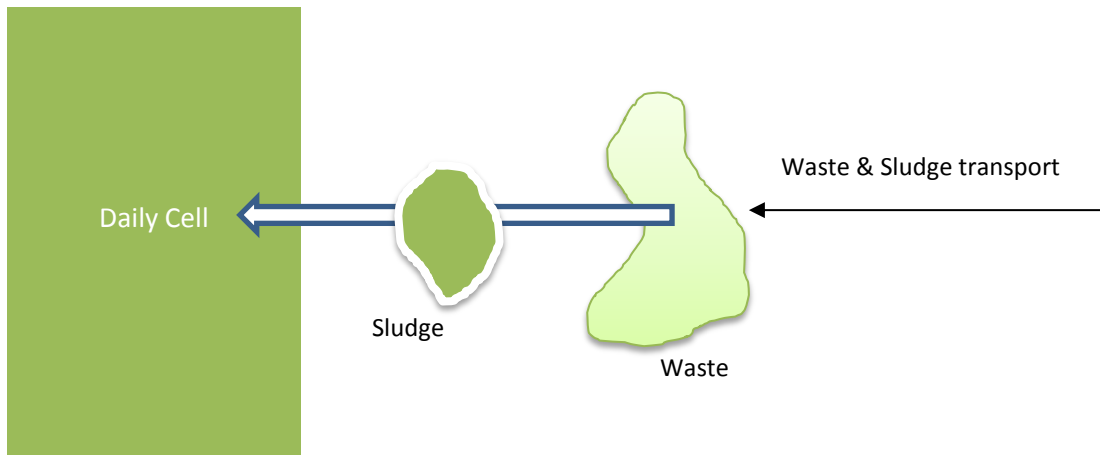

Figure 2: In situ mixing and disposal on one level
- Spreading and compacting on one level, by rejecting the sludge before the daily cell working face, so that by spreading waste, sludge is carried away with solid waste, mixing these two materials (see Figure 2).